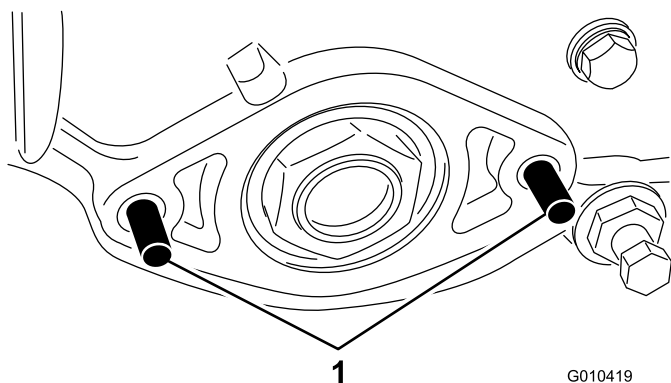

Figure 4
7. Install 2 bolts (M8) through the left sideplate as shown in Figure 4.